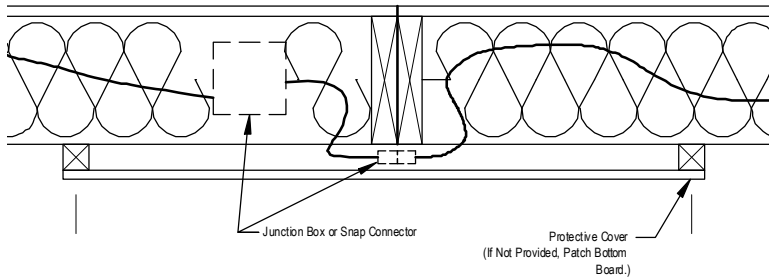

Figure 57. Floor electrical crossover wires with bumped-out access panel
2. **Route wires.** Pass the wires through predrilled holes or notches in the rim joist or if there is a single bumped-out access panel as in (**Figure 57**), then under the rim joists. If holes or notches have not been provided and there is no bumped-out access panel, drill maximum one-inch diameter hole(s) half-way up the rim joists on each home section, making sure the holes align and feed the wire through the hole.